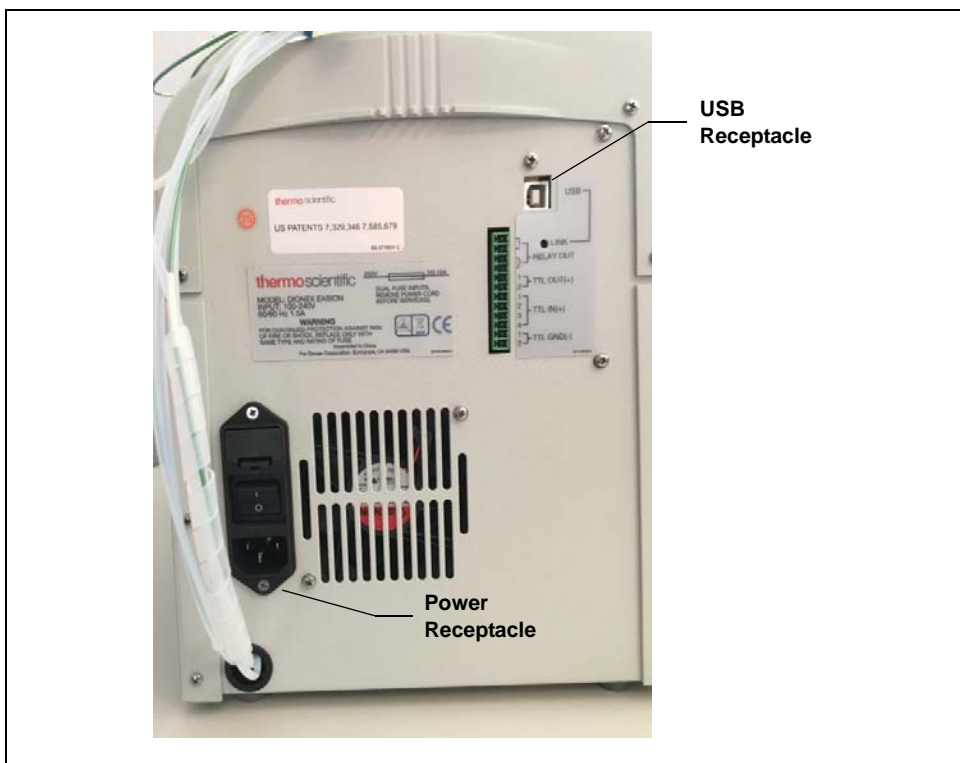

Figure 3-4. Dionex Easion Rear Panel
3. Plug the “B” connector of the USB cable into the USB receptacle on the Dionex Easion rear panel (see Figure 3-4).
1. Verify that the main power switch on the rear panel of the Dionex Easion (see Figure 3-4) is turned off. (The main power switch may have been turned on accidentally when the system was unpacked.)